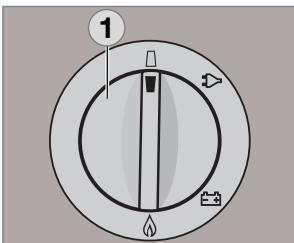

Fig. 40
- For battery igniter models, set energy selector switch (1) to position "OFF". The appliance is switched off (Fig. 40).
- Switch off MES and AES models by pressing button (2). Keep button (2) pressed for 3 seconds. The display disappears
and the appliance is fully switched off (Fig. 40).